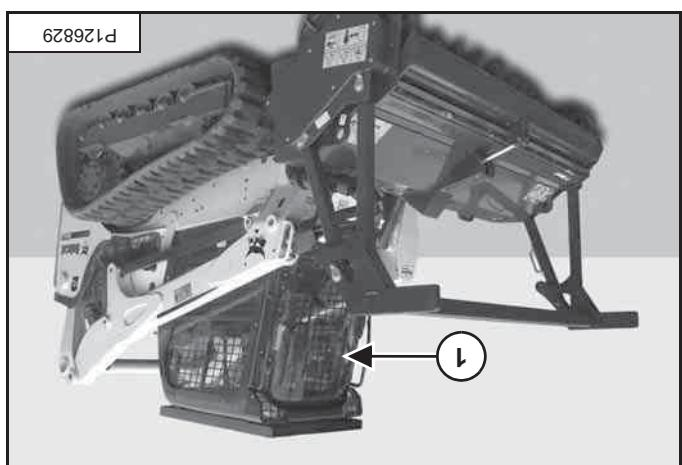

Figure 83
Close the forestry door (item 1) [Figure 83].